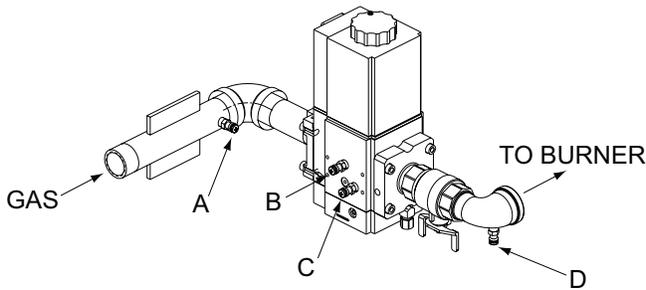

Figure 55. Gas Pressure Measurement Locations
2. Attach (1) 12" scale manometer to an upstream bleedle valve on the gas supply pipe to the heater (Measure point "A" in **Figure 55**).
- Attach (1) 24" scale manometer to the manifold pressure tap located near the shutoff valve downstream of the firing valve (Measure point "C" in **Figure 55**).
- Attach (1) 12" scale manometer on the fan suction pressure hose. Pull black cap from the air pressure tee as shown in **Figure 55** and connect the manometer.
- Check manifold gas pressure at the gas valve outlet pressure tap (connection "C" in **Figure 55**). This pressure should read per the values in **Table Y** for natural and propane gas.